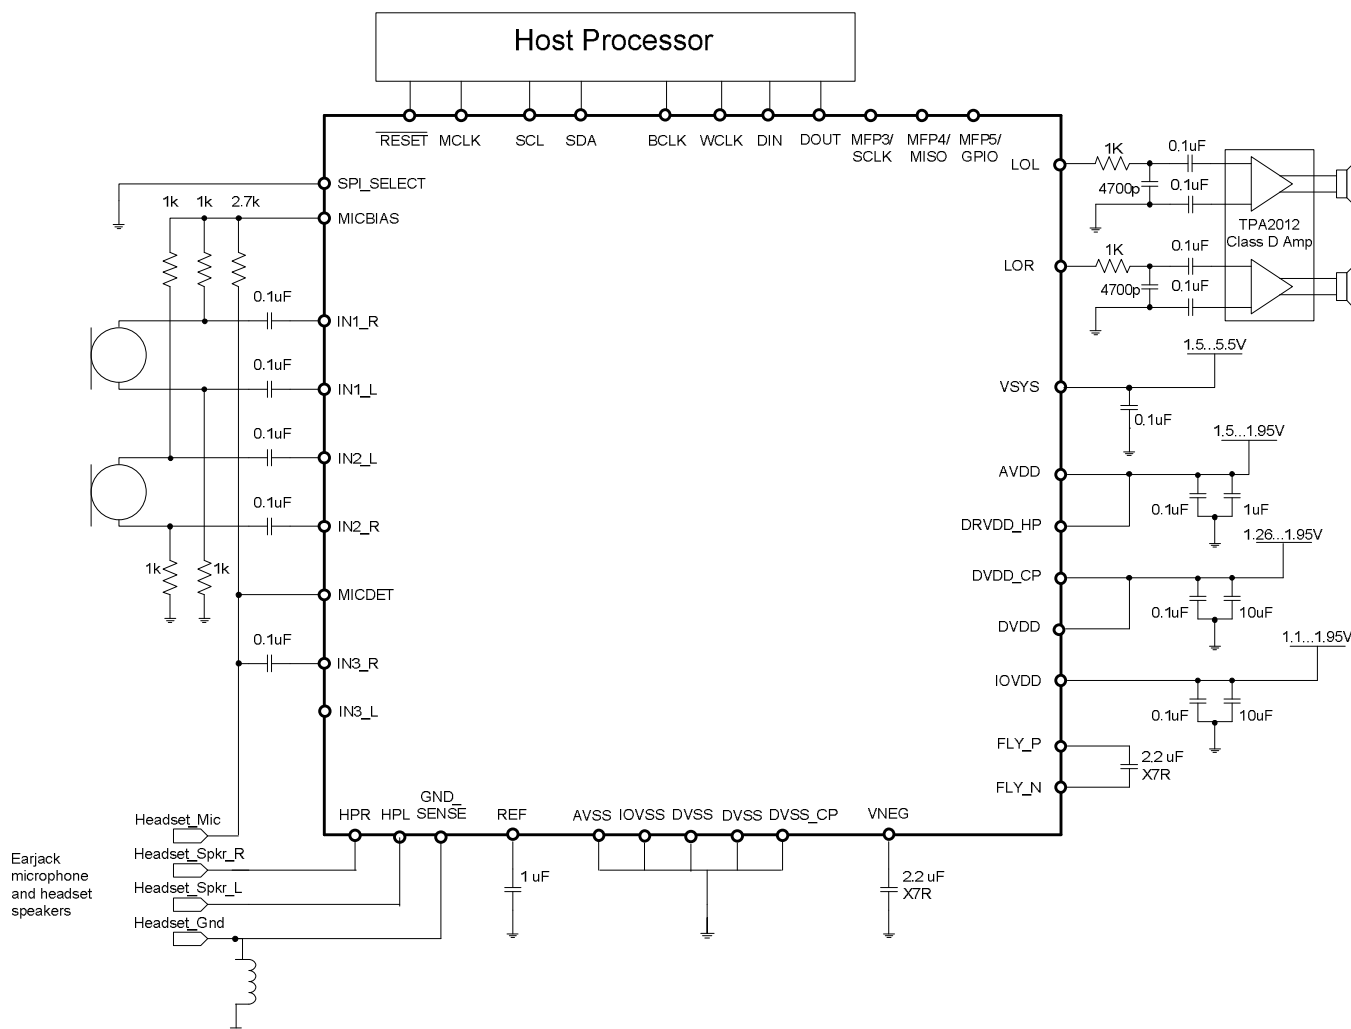

Figure 21. Typical Circuit Configuration
Figure 21 shows a typical circuit configuration for a system using the TLV320AIC3256.
Refer to Figure 21 for recommendations on decoupling capacitors.
- The decoupling capacitors for the power supplies should be placed close to the device terminals. Figure 21 shows the recommended decoupling capacitors for the TLV320AIC3256.